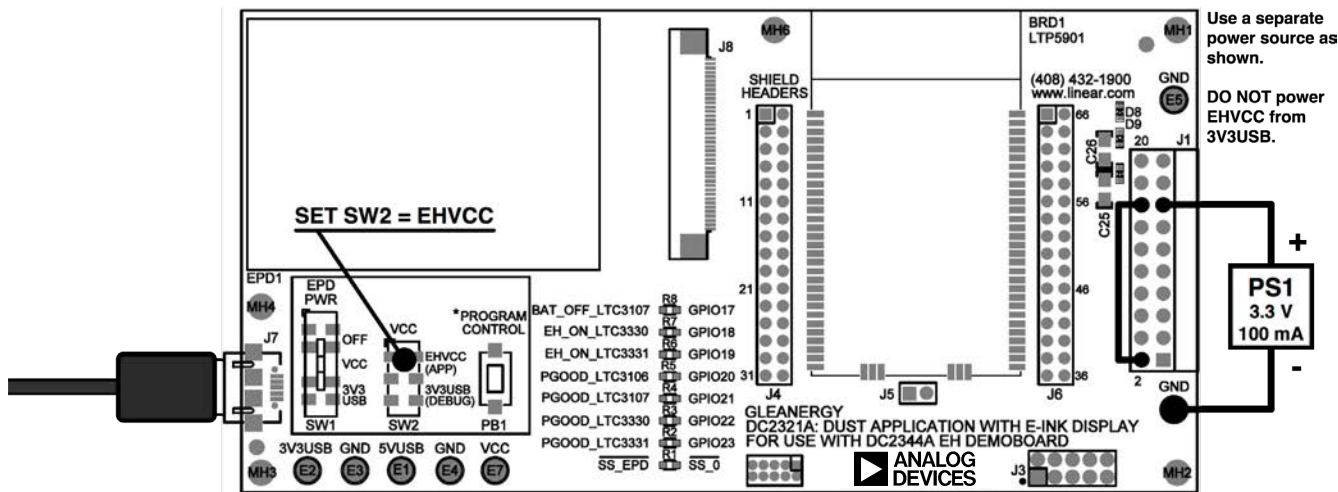

Figure 5. Configuring DC2321A to Measure Application Energy Consumption
2. Configure the board as shown in Figure 5. This routes the board’s power supply through the primary battery’s coulomb counter.